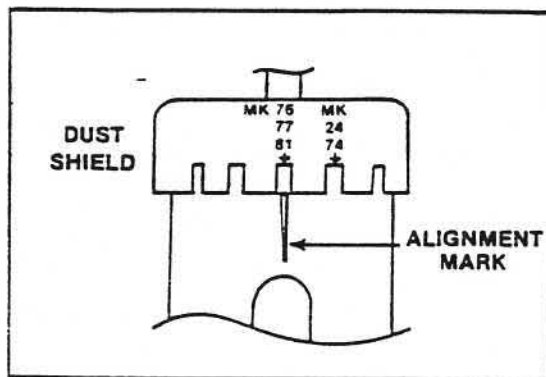

FIGURE 3.7
- a. Turn the upper unit dust shield (shown in Figure 3.7) until the MK 76 notch matches the white line on the transducer body.